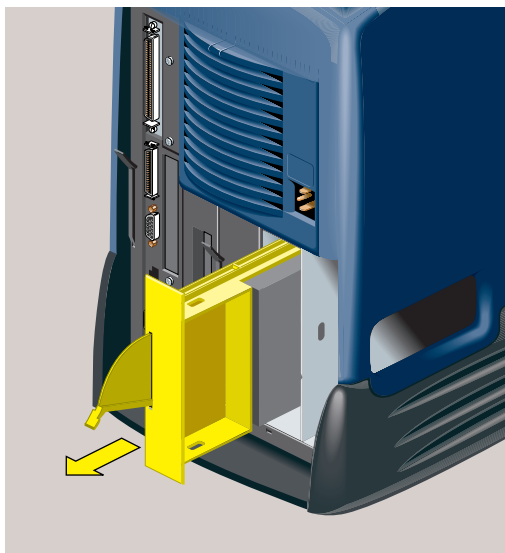

Figure 3-15 Sliding the Second Hard Drive Out of the Chassis
3. Pull the drive module out of the chassis (Figure 3-15).